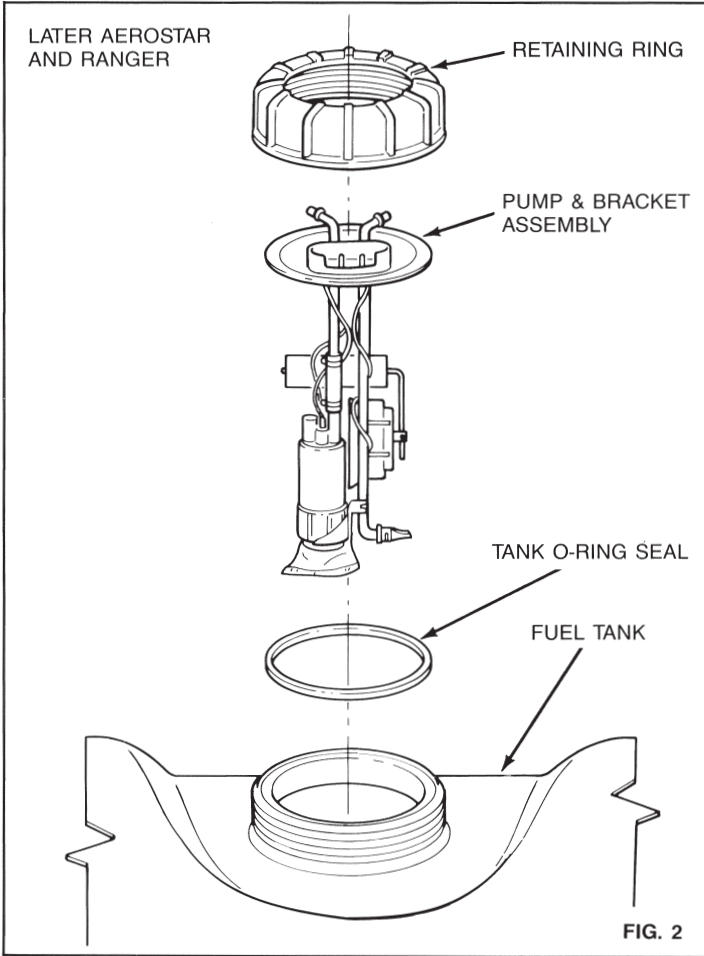

FIG. 2
2) Later Aerostars and Rangers, use an internally threaded retaining ring which closely resembles a large Mason jar lid (see fig. 2). This does not use a lock to prevent the retaining ring from turning.